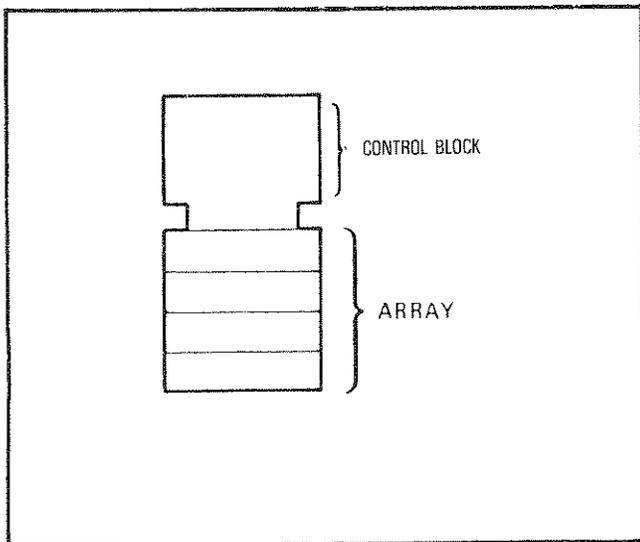
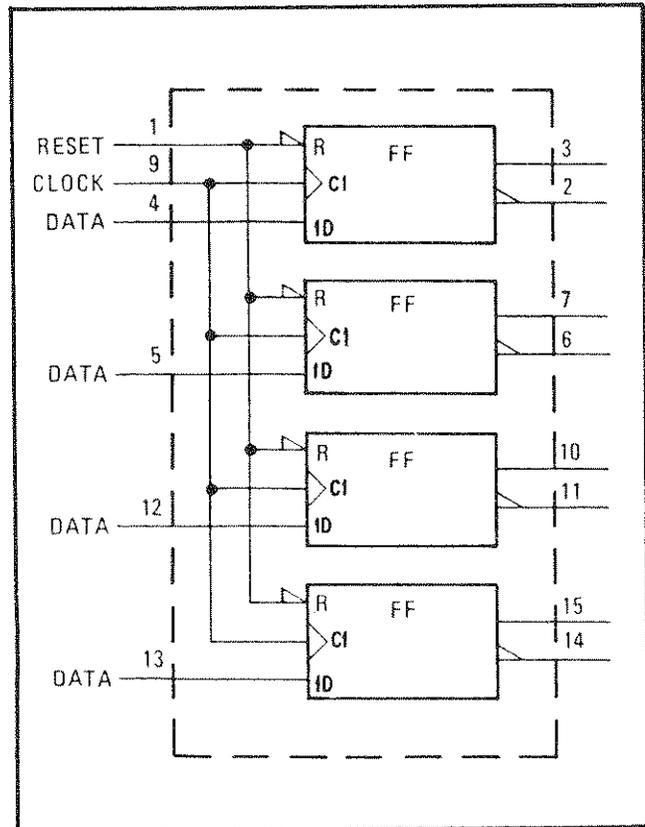
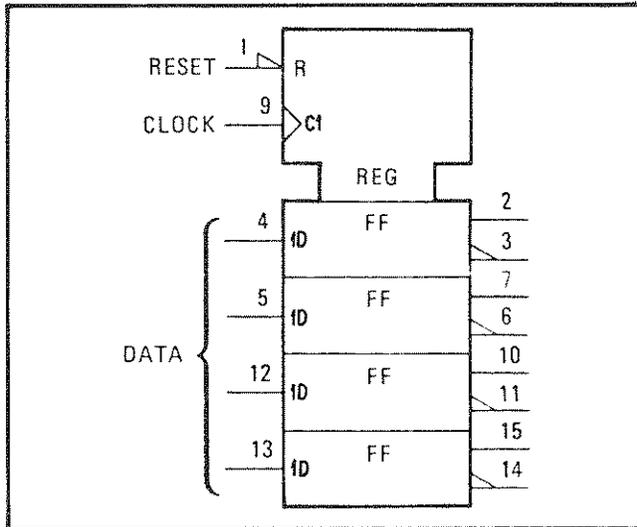

Figure B-5. Common Control Block
Figure B-6. Quad D-Type Latch (Individual)
Figure B-7. Quad D-Type Latch (Combined)
**Common Control Block.** The Control block is used in conjunction with an array of related symbols in order to group common logic lines. Figure B-5 shows how the Control block is usually represented. Figure B-6 shows a quad D-type flip-flop with reset. This can be redrawn as shown in Figure B-7. Note that the more complex representation shown in Figure B-6 can be used when the flip-flops are functionally scattered around the schematic (i.e., not used as a quad unit).